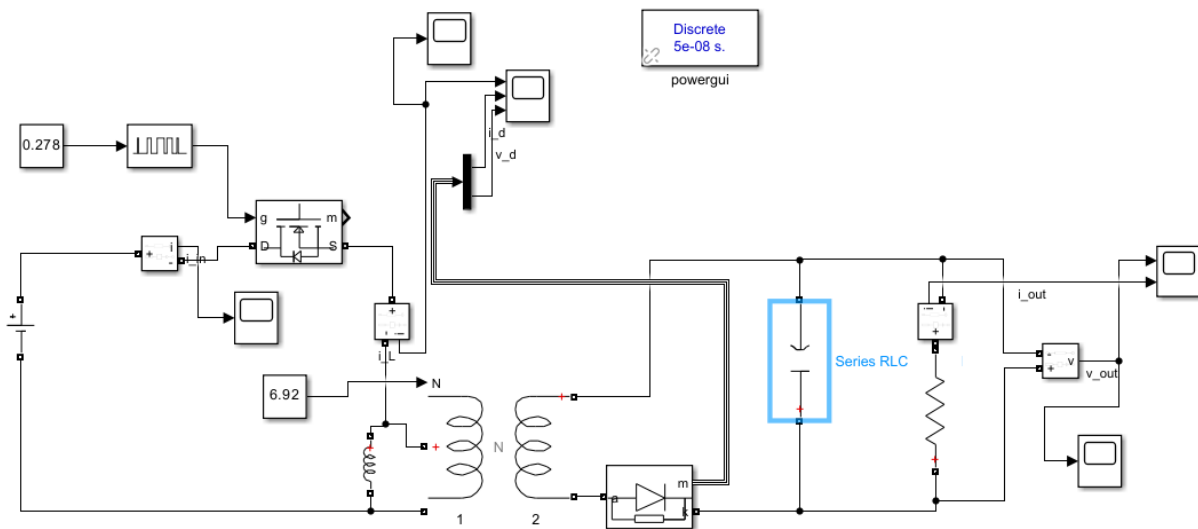

Figure 2: The Flyback converter in Simulink
- c) The open-loop flyback design is simulated on Simulink as shown in Figure 2. The circuit is simulated at its edges, namely, 12V input voltage and 0.366 duty and 18V input voltage and 0.278 duty. The simulation results are shown in Figures 3-6 for 0.278 duty and Figures 7-10 for 0.366 duty.